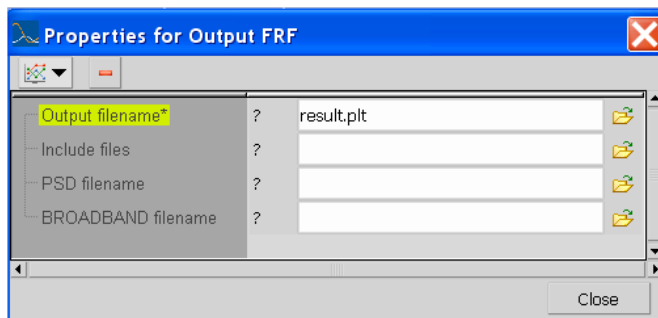

Figure 10.79: Output FRF request
- Output FRF: defines the output parameters for the PLT file, as shown in Figure 10.79. Refer to Section 6.3.10 in this User's Guide and to ACTRAN User's Guide Section 10.8 of Volume 2 for more information;